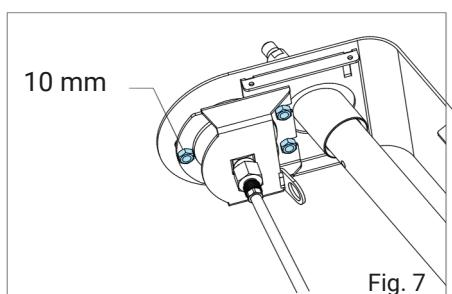

Fig. 7
- 4 When replacing the manometer (17), you must first unscrew the manometer holder (32) from the air pump casing (18). You will need a 10 mm open-end wrench for the three nuts (Fig. 7).
- 9 Fix the manometer holder and manometer using the three M6 hexagon nuts in the air pump casing. Hand-tighten the nuts using a 10 mm open-end wrench (Fig. 7).